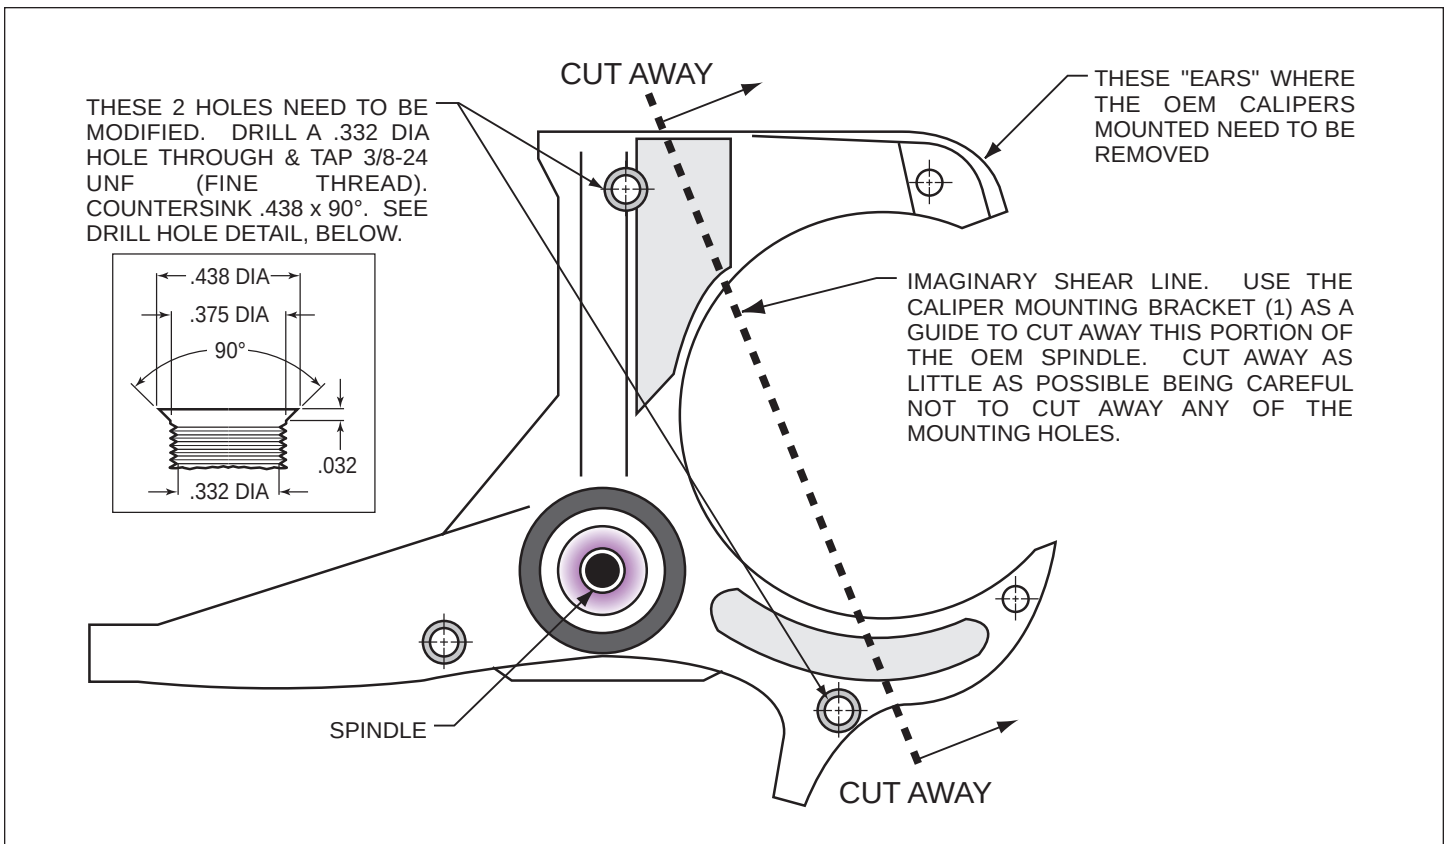
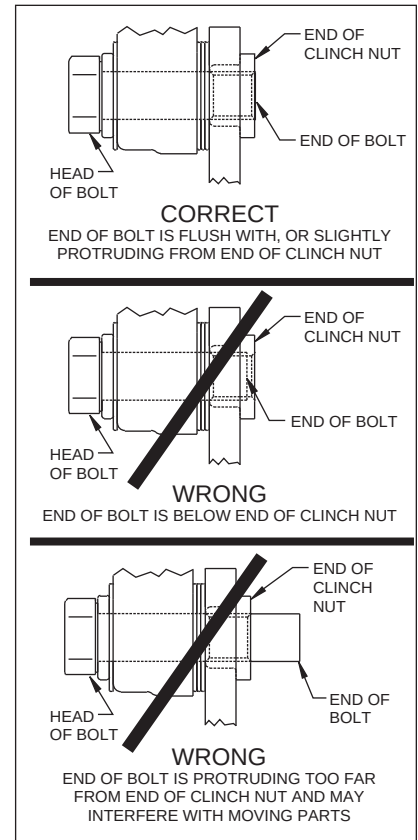

Figure 1. Steering Arm / Spindle Modifications
Figure 4.
These modifications should be performed by a qualified machinist. Refer to Figure 1 as necessary (numbers in parenthesis refer to the parts list). Only one view of the steering arm/spindle is shown, but the modifications need to be performed on both steering arm/spindles.
- Apply red *Loctite*® 271 to bolt threads (2) before assembly of the caliper bracket (1) to backing plate face of spindle. Position the caliper mounting bracket (1) onto the spindle while positioning spacers (3) between bracket and spindle face. Slip the mounting bolts (2) into the threaded spindle holes, finger tighten. Torque two bolts (2) to 30 ft-lb. **NOTE:** Be sure the heads of the caliper bracket (1) insert nuts are facing outward toward the wheel.
- Install five new wheel studs (4) into the hub (5). Torque to 77 ft-lb. **NOTE:** There are two five lug patterns in the hub (5 x 4.50 and 5 x 4.75). Make sure of the correct hole pattern for the correct wheel application before installing studs into hub.
- Pack the large inner bearing cone (6) with high temperature disc brake bearing grease (available from your local auto parts store) and install into the backside of the hub (5).
- Install the grease seal (7) by pressing into the backside of the hub (5).
- Orient the rotor (9) and the rotor adapter (8) as shown in Figure 1. Attach the rotor to the adapter using bolts (10). Using an alternating sequence, apply red *Loctite*® 271 to the threads, and torque to 25 ft-lb.
- Mount the adapter/rotor assembly (8/9) to the hub (5) using bolts (11), as shown in Figure 1. Using an alternating sequence, apply red *Loctite*® 271 to the threads, and torque to 55 ft-lb.
- Pack the small outer bearing cone (12) with high temperature disc brake bearing grease and install into front of hub (5). Slide the hub/rotor assembly (5 and 9) with outer bearing cone (12) onto the spindle. Secure using supplied washer (13), original adjusting nut and nut locking device.
- Install the dust cap (15) onto the hub (5). Friction created by the o-ring (14) on the dust cap (15) keeps it from unscrewing. The O.D. of the existing spindle washer may be larger than the I.D. of the dust cap (15) not allowing it to seat against the hub face. Therefore, use the spindle washer (13) supplied with the kit instead of the stock washer.
- NOTE:** Please reference the caution statement at the beginning of the assembly instructions. Mount the caliper (16) onto the caliper mounting bracket (1) using washers (17) and bolts (18). Finger tighten. View the rotor (9) through the top opening of the caliper (16). The rotor (9) should be aligned in the center of the caliper (16). If not, adjust the caliper (16) by using 0.032 inch thick shims (19) placed between the caliper mounting bracket (1) and the caliper (16). Add as many shim washers (19) as necessary to achieve the correct alignment. **NOTE:** The end of the bolt must be flush with or slightly protruding from the head of the clinch nut. See Figure 4. Place spare shims (19) between washer and caliper mounting ear to achieve the proper mounting fastener configuration. Always use the same amount of shims on both the top and bottom caliper mounting bolts (18). Finger tighten and recheck alignment, adjust as necessary. Apply red *Loctite*® 271 to bolt threads (18) and torque to 40 ft-lb.
- Install the disc brake pads (20) into the caliper (16). Secure the disc brake pads to the caliper utilizing cotter pin (21).